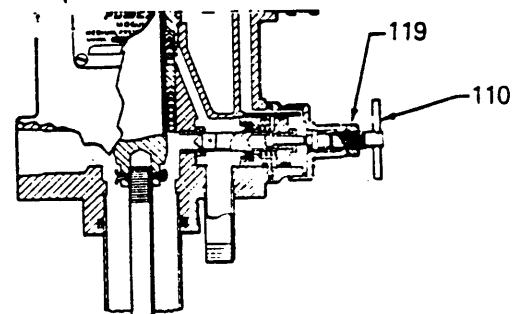

Fig 2
*To circulate fluid*, open the Relax-A-Valve by loosening the locknut (119) and turning the T-handle screw (110) *counterclockwise* as far as possible. Start the pump and circulate the fluid as necessary. Stop the pump and close the Relax-A-Valve or set it in the automatic position. See Fig 2.
*To set the automatic position*, loosen the locknut (119) and turn the T-handle screw (110) *clockwise* as far as possible. Back off the T-handle screw *four* turns and tighten the locknut. During normal operation, the fluid pressure is relieved automatically each time the air pressure to the pump is relieved.